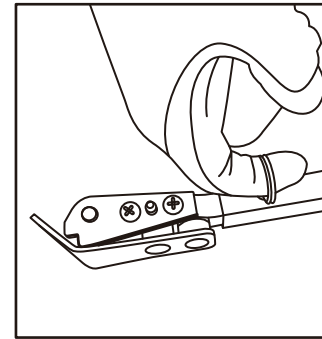

Fig 5
B. When pulling overhead or from above, pull forward pin on Front Extension (6) and rotate 180 degrees and insert back into Base Arm (5) and reinstall pin (Fig 5 and 6). Wrap rope under the bottom of the Capstan (1) and wrap rope counter-clockwise. Ensure 18-Volt drill is in FORWARD and payoff like most conventional wire pullers.